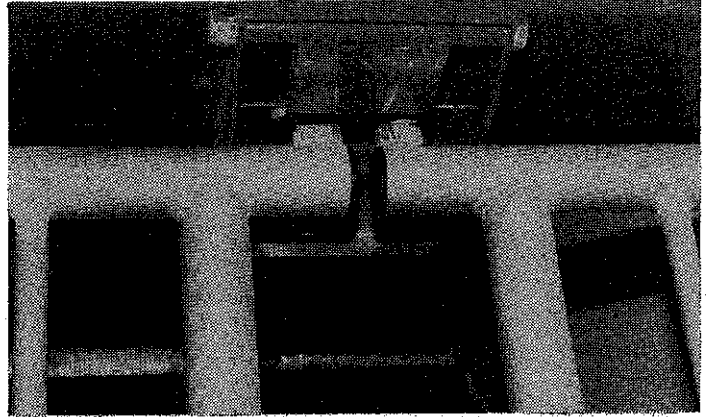
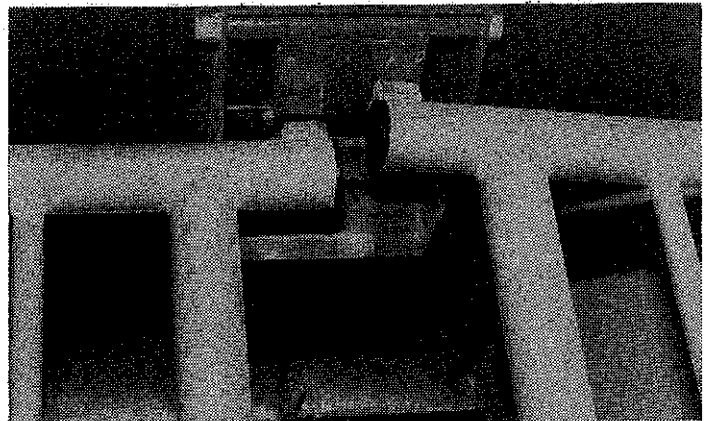

Figure 13
Figure 14
Synchronization of the gates - In the locked position both gates should be in line resting against the rear latch as shown in figure 13. If the gates are offset as shown in figure 14 adjust as follows:
- Step 3 Make sure the gate catch at the top of each gate is resting against the rear latch as shown in figure 13.